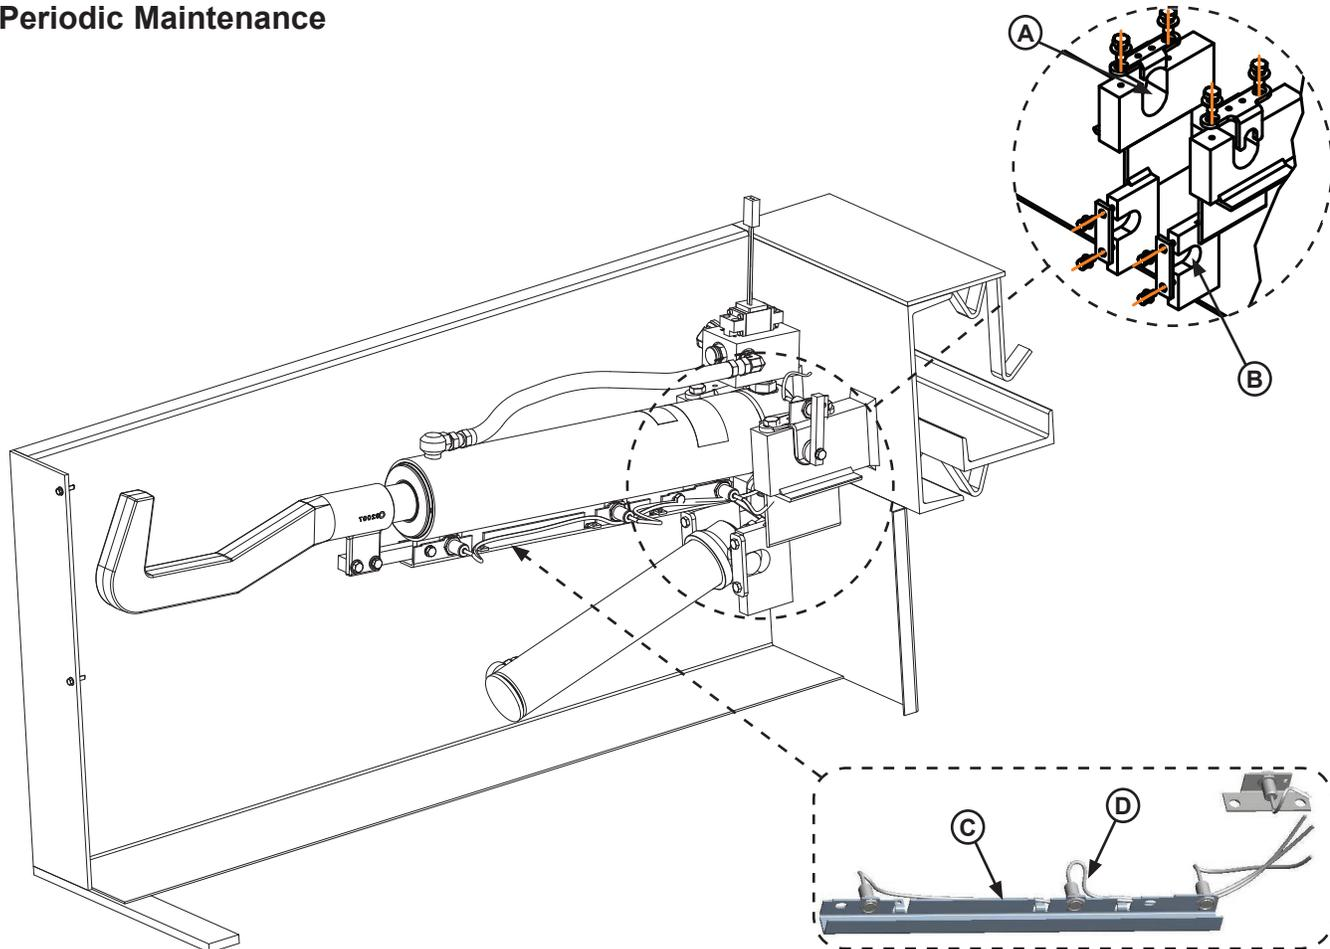
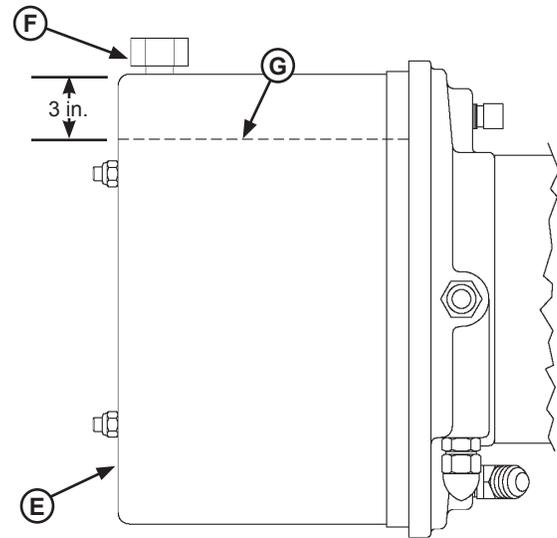

Figure 32
Figure 33
- Inspect guide track assembly (C) and prox switch harness (D).
- Lubricate the following areas with white lithium grease (see Figure 32):
- (A) — Hook cylinder trunnions
- (B) — Positioning cylinder trunnions
- Check reservoir fluid level (see Figures 33 and 34; appearance may vary depending on model):
3. Remove breather cap (F).
4. Measure fluid level (G). The fluid level should be approximately 3 in. (76.5 mm) from top of reservoir (E) with platform raised on the maintenance prop.